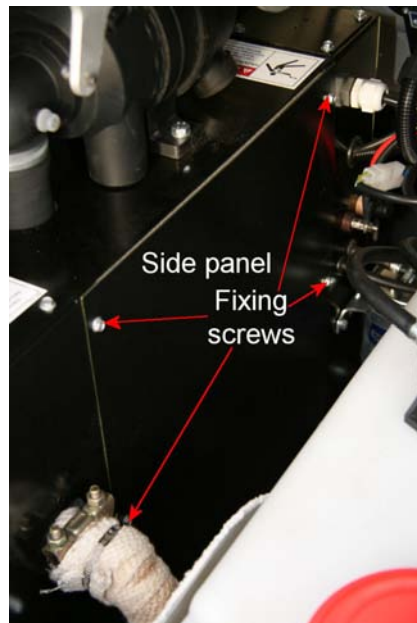
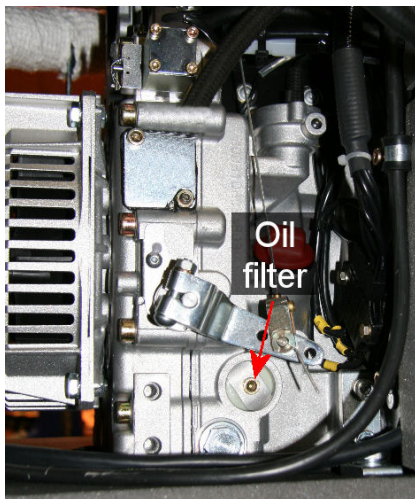

Fig 3-1 Engine side panel
Fig 3-3 Engine oil filter
5. Check the oil level using the dipstick (Fig 3-1).
1. To gain access to the oil filter it is necessary to remove the side panel from the engine. Fig 3-1 shows the side panel and some of the fixing screws. The oil filter is located near the bottom of the engine (Fig 3-3).